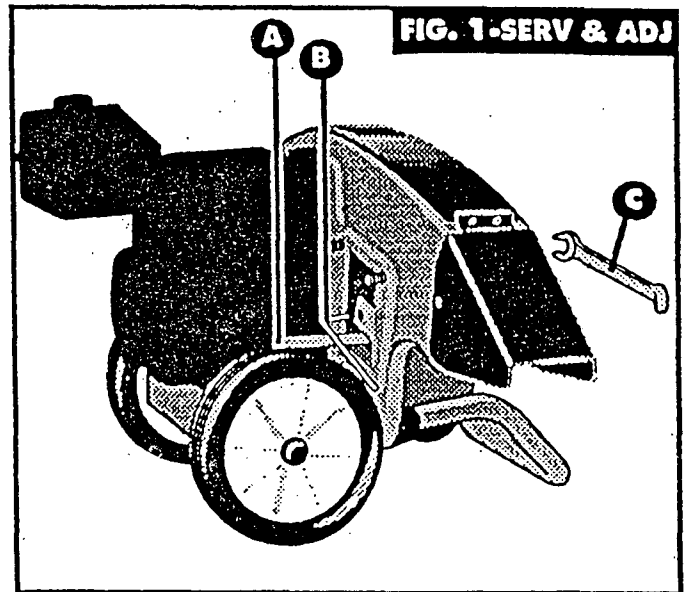

FIG. 1-SERV & ADJ
- Prevent the impeller assembly from turning in a counterclockwise direction by wedging a block of wood between one of the fan blades and the wall of the housing or, insert a thick, hardwood dowel (item A) through the slot below the blade and into the Chipper chute opening in the wall of the housing. (See FIG. 1-SERV & ADJ).
- Remove the blade, using a 3/16" allen wrench (item B) on the outside of the blade and 1/2" wrench (item C) on the impeller assembly (inside the housing) (See FIG. 1-SERV & ADJ).